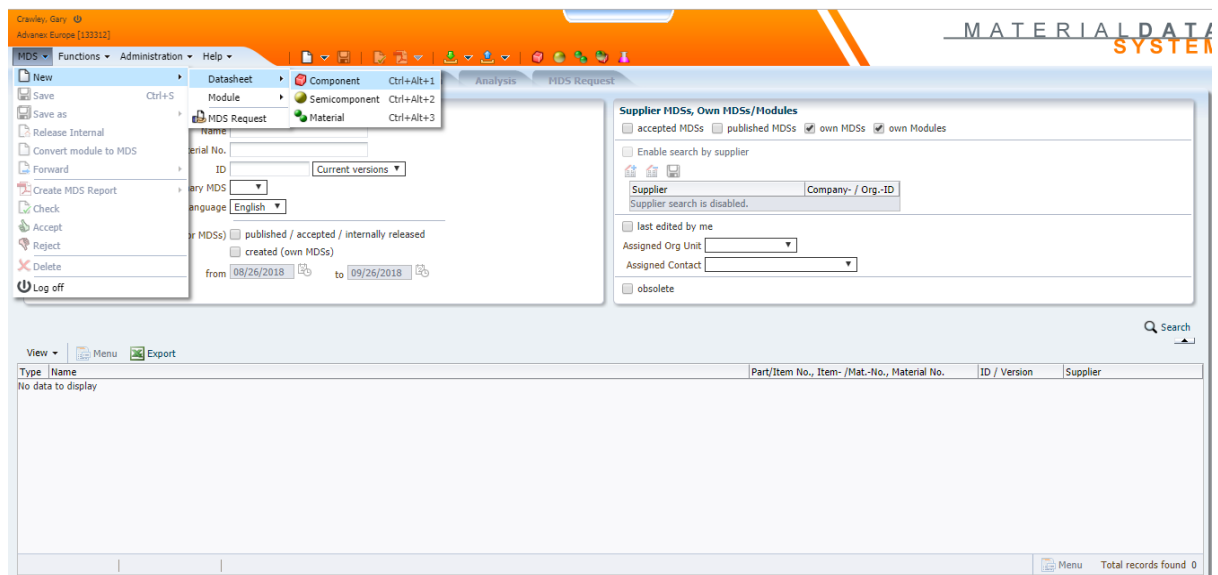

Fig.1
3. Click MDS > New > Datasheet > Component. (Fig1)